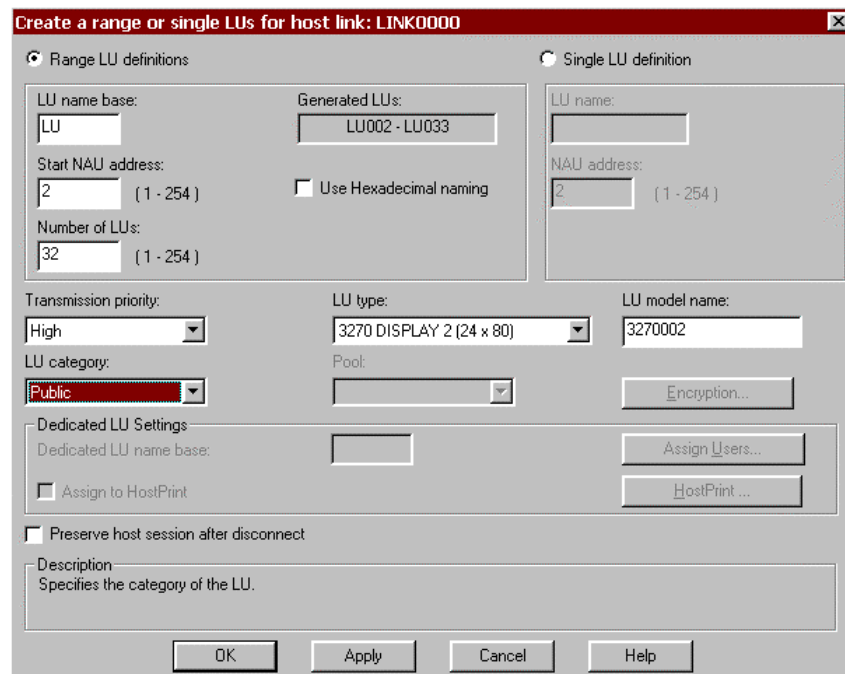

Figure 11-20. Create a range or single LUs for host link
8. Click **Yes** to define LUs. The *Create a range or single LUs for host link* screen will be displayed, allowing you to define LUs. There is nothing unique to the Netfinity ESCON Adapter when defining LUs. Please refer to either the online help or Novell's documentation for information on using this screen. The following example shows how to set up 32 public LUs named LU001-LU032 (Figure 11-20).